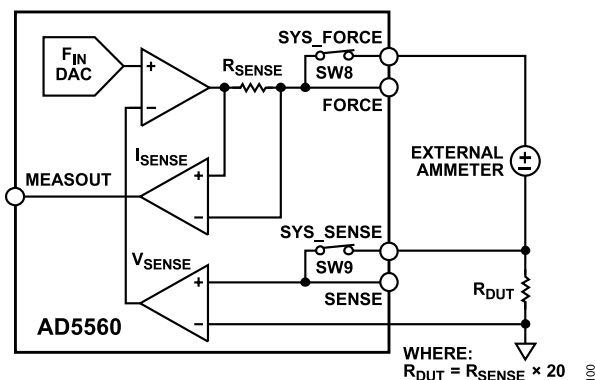

Figure 58. Measure Current Calibration
- Connect the SYS\_SENSE pin to a precision resistor ( $R_{DUT}$ ), where  $R_{DUT} = R_{SENSE} \times 20$  of the current range, and connect its other terminal to ground (see Figure 58).